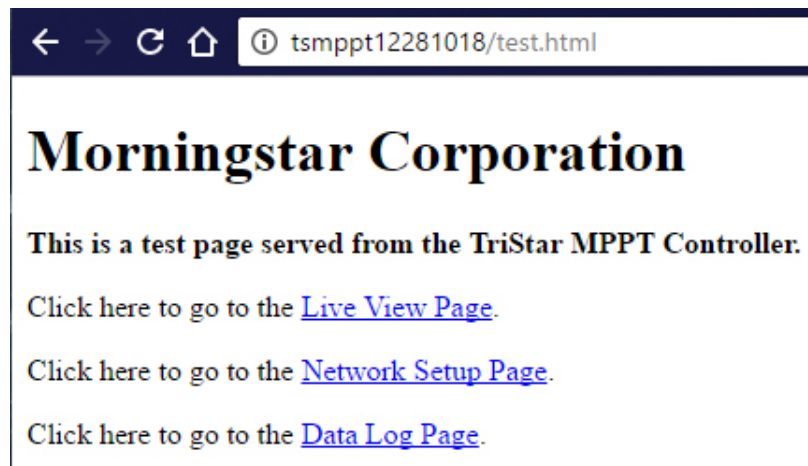

Figure 2. Live View Test Page
3. A test page as shown in Figure 2 should load with links to the Live View, Network Setup and Data Log pages.